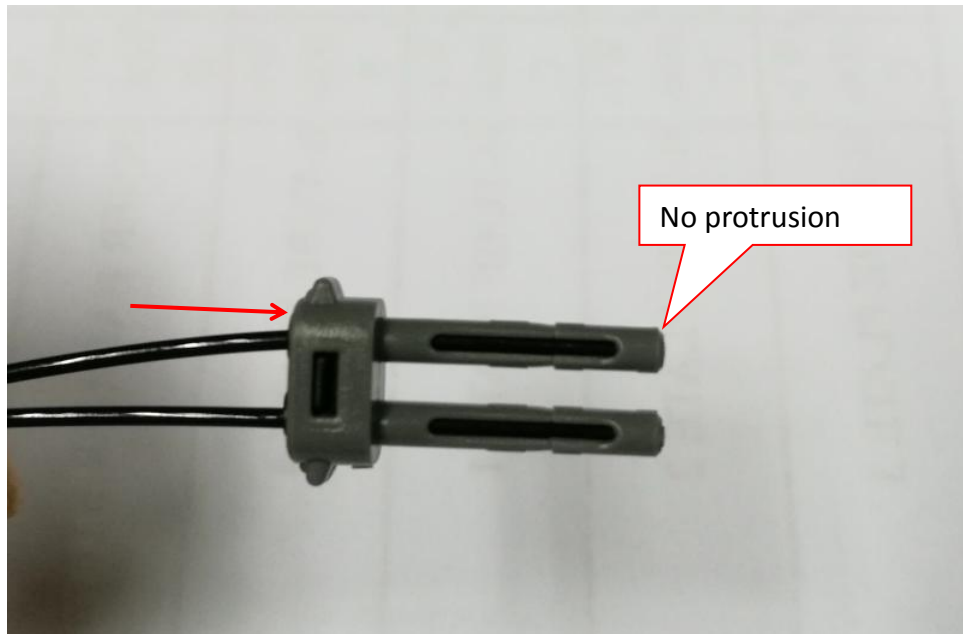

Figure 18 PIP Sensor End Cable Adapter
10. Gently slot PIP Sensor End Cable into adapter as shown in Figure 18.